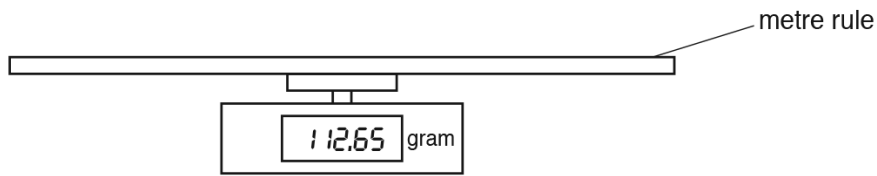

Fig. 1.2
- (e) The student measures the mass of the rule on a balance. Write down the mass m shown on the balance in Fig. 1.2 to the nearest gram.